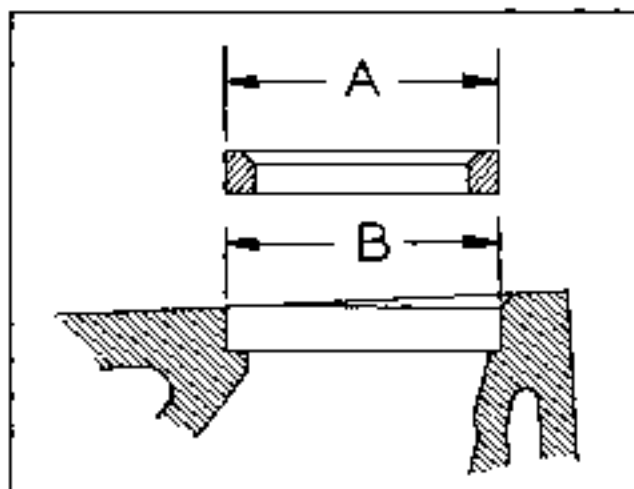

Fig. 1-73. Insert and counterbore
e. We do not recommend installing new inserts having the same outside diameter as the one removed. The following chart shows the dimensions of Standard Inserts and counterbores. See figure 1-73.